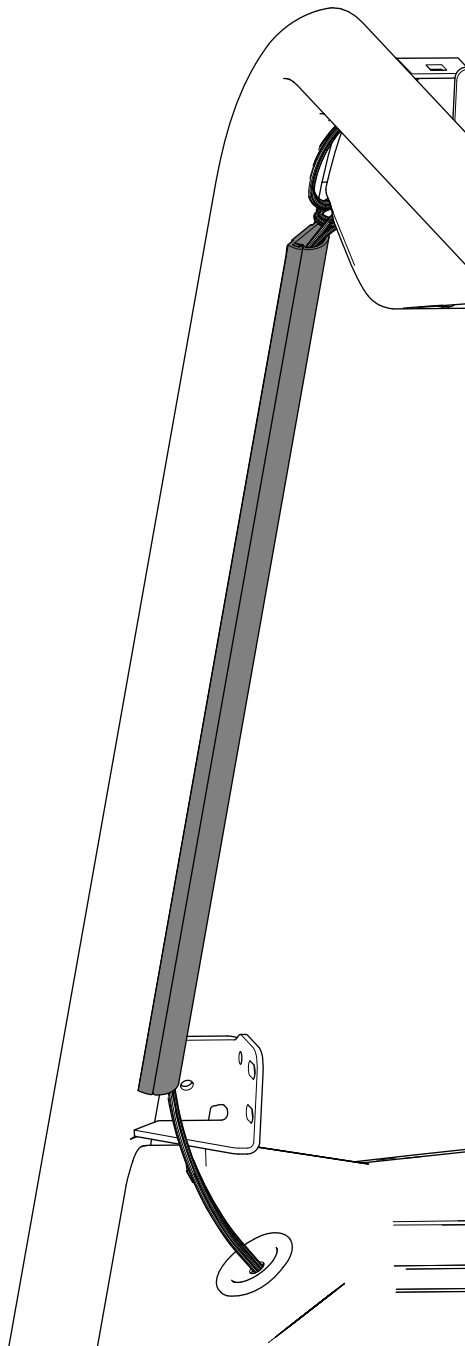

**Figure 12**
2. Assemble the wire harness with the 3-pin connector into the wire raceway channel (Figure 12).
3. Insert the wire harness through the slit in the grommet (Figure 12).